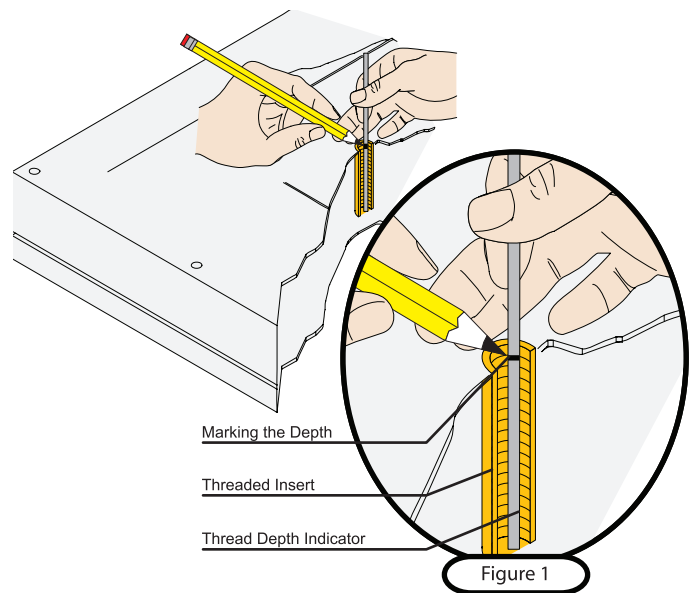

Figure 1
- 2 Use a pencil to mark the depth of the thread insert on the Thread Depth Indicator, as shown in Figure 1.